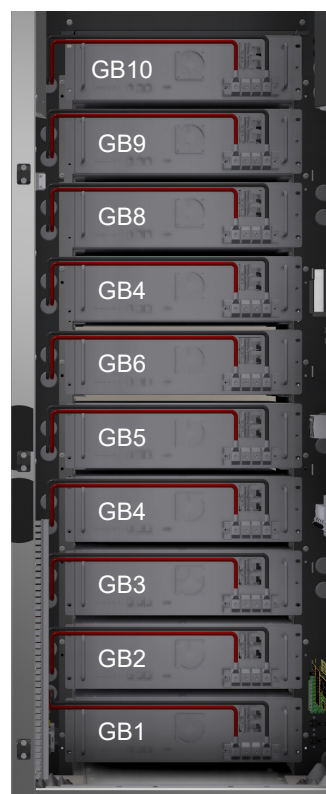

Figure 4.29 Battery cables
6. Repeat step 4 and 5 to connect all other batteries installed in the system (see *Figure 4.29*).